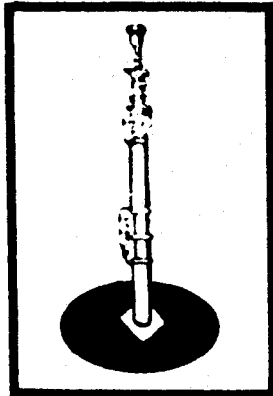

*Figure 1-1. Mast AB-577/GRC, supporting Antenna AT-903/G.*
*a.* Mast AB-577/GRC (fig. 1-1) is an eight-section antenna support that can be extended as high as 48 feet (14.63 meters) above the ground. Extension Kit, Mast MK806/GRC is a five-section mast kit that is mounted on top of the AB-577/GRC to produce a total height of 75 feet (22.86 meters).